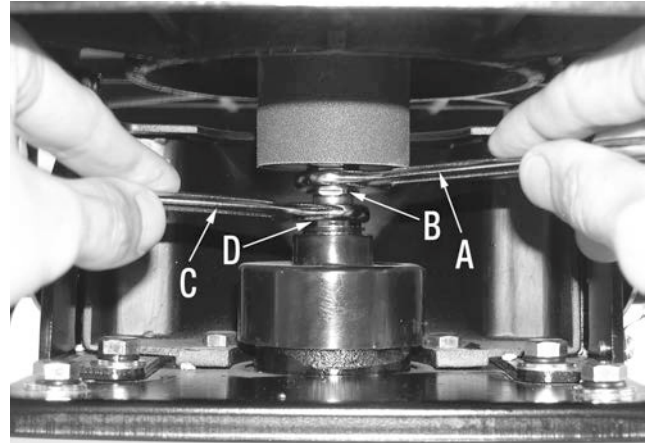

FIGURE 7
5. Place the supplied 17mm open end wrench (A) Fig.7 on the flat of the threaded shaft (B). At the same time, place another 17mm open-end wrench (C) on the flat of the oscillating spindle seat (D). Turn both open end wrenches towards each other to secure the sanding spindle or sanding drum.